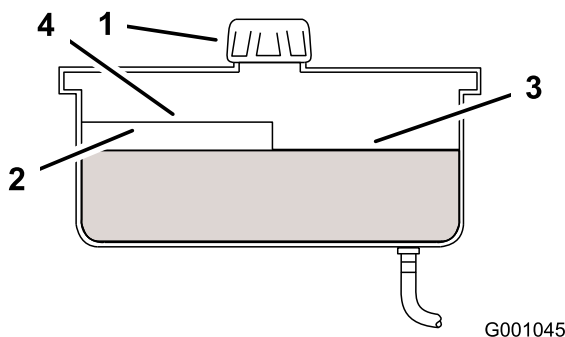

Figure 68
4. Clean area around cap and filler neck of hydraulic tank (Figure 68).
5. Remove cap from filler neck. Look inside to check the fluid level in the reservoir. (Figure 68).
Note: The fluid level should be to the top of the hot level of the baffle, when the fluid is warm (Figure 68).